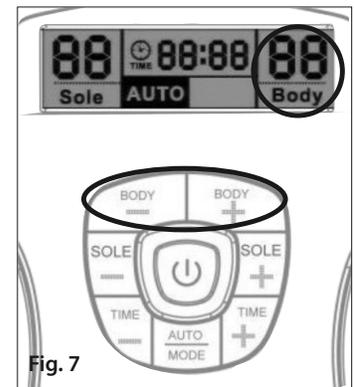

Fig. 7
5. Gently increase intensity setting by pushing the button of "Body + ". Or decrease intensity setting by pushing the button of "Body - ". The LCD will also show the level which you have selected (see Fig. 7).